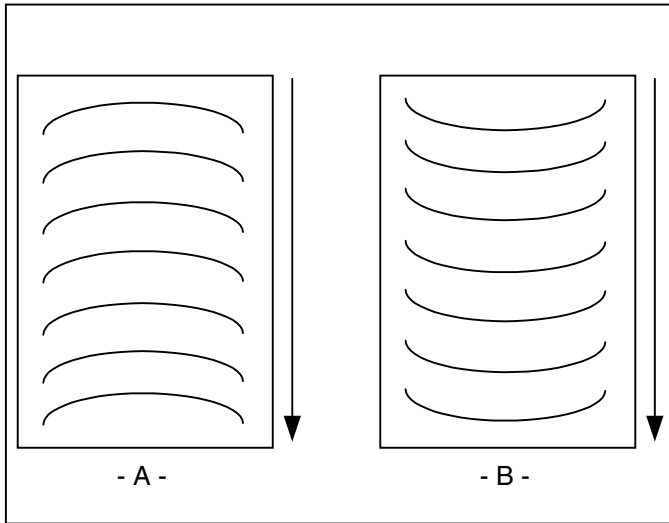

Fig. 46
1. “**D**” waves in the image (Figure 46 A).
2. “**D**” waves in the laminate (Figure 46 B).